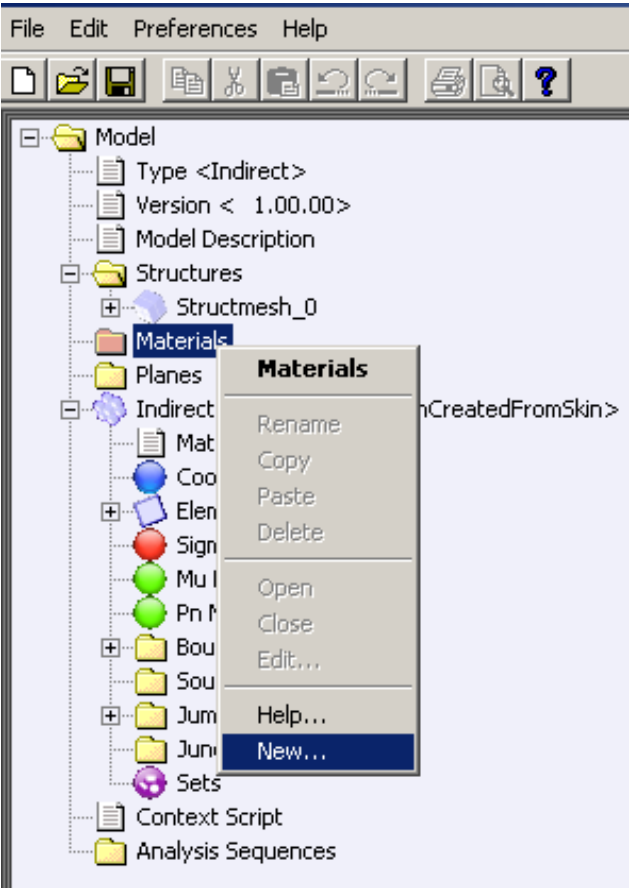
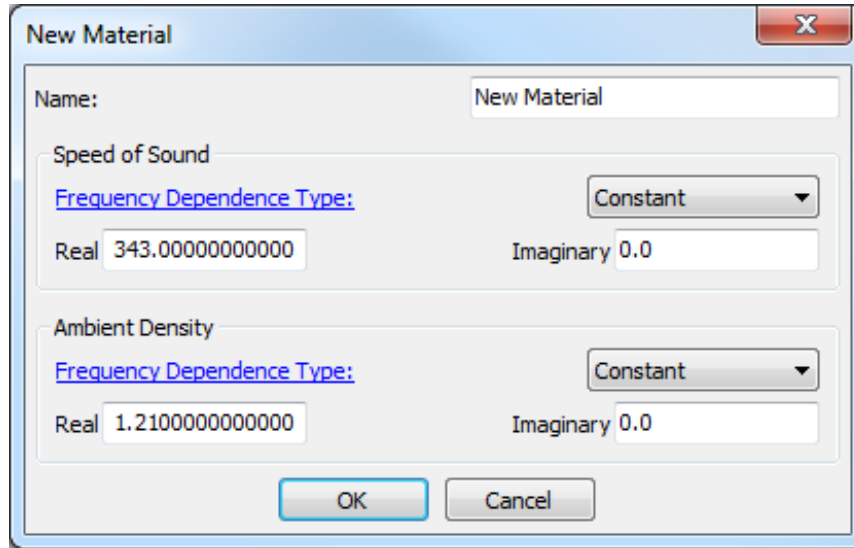

Figure 4.19 Create New Material
Figure 4.20 Edit Material Properties
- **Define a New Material** Right-click on **Materials** and select: **New** and proceed with entering new parameters information. Click OK to accept. See Figure 4.19 and Figure 4.20.
- **Edit Materials** Select: **Materials** → <Material Name>. Right-click on <Material Name> and select: **Edit**. Proceed with editing the parameters. Click OK to accept (Figure 4.20).